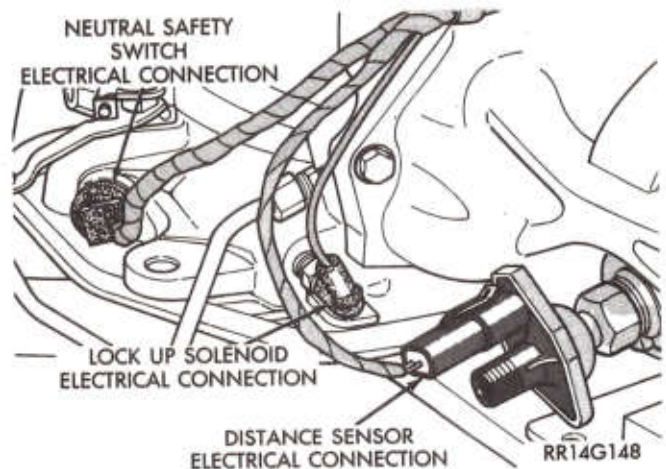

Fig. 22—Transmission Wiring Connections
(33) Check two way Distance Sensor Electrical Connector (Fig. 22).
(34) Verify neutral safety switch electrical connector is in place (Fig. 22). Automatic Only.
(35) Check Torque Converter Lockup Solenoid Electrical Connection (Fig. 22) (Automatic only).
(36) Check Hose and Wiring Connections at Fuel Pump. Check that wiring connector is making contact with terminals on pump.